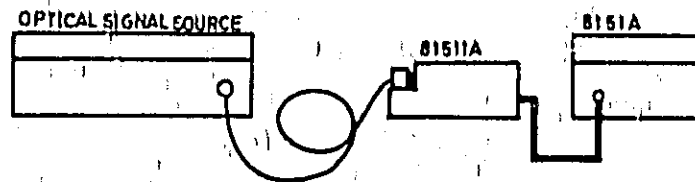

Figure 4-7. Test setup for measurement flatness tests to 9.99 MHz
1. Connect the equipment as shown in Figure 4-7.